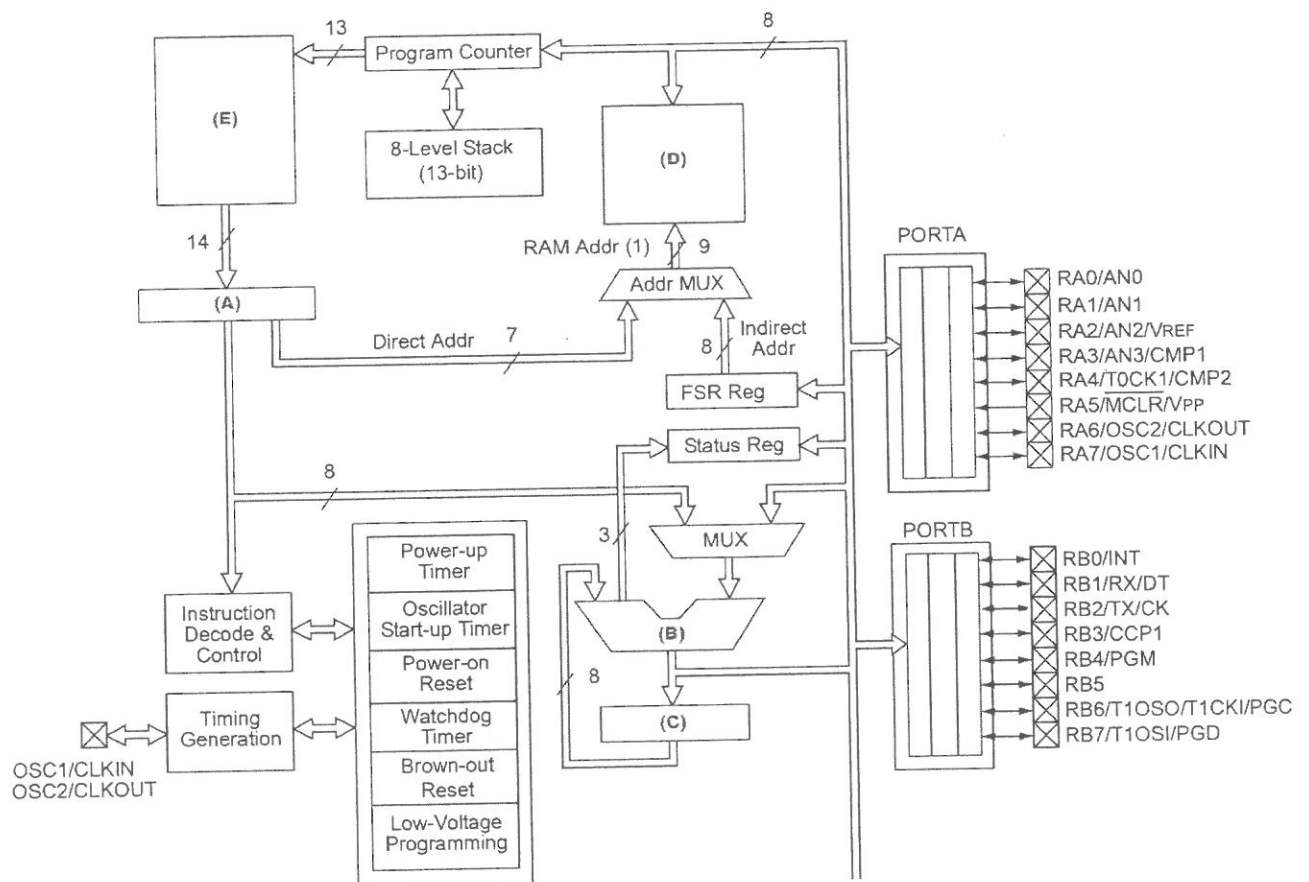

Figure 1(a)
- (a) Name and describe the function of the following labels in Figure 1(a) as shown below.
- (i) Label (A) (3 marks)
- (ii) Label (B) (3 marks)
- (iii) Label (C) (3 marks)
State the possible type of microcontroller for Figure 1(a) internal architecture. (1 mark)